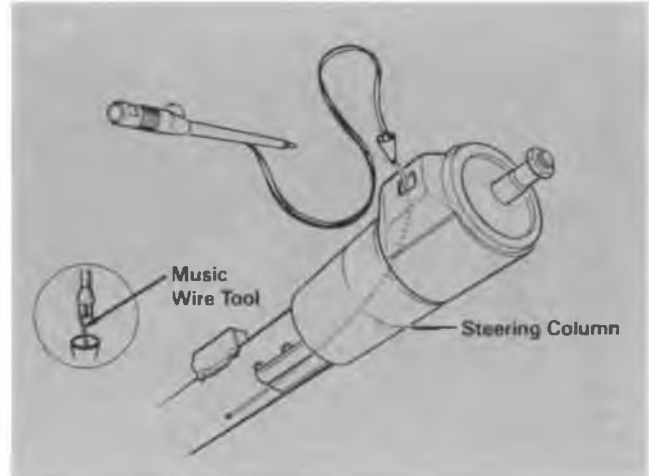

Figure 7-8 Cable Adjustment
- Step 4 Insert music wire tool into opening and route through column as shown. Attach terminal to tool and pull wire through column until slack is removed (Figure 7-8).